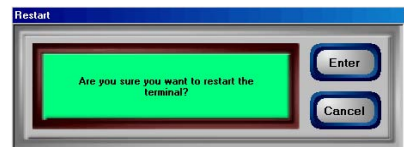

Fig. 7-6. Restart terminal - confirmation dialog.
4. Select the **Restart the Terminal** option by pressing number **(5)** on the alphanumeric keypad. The confirmation dialog appears, as shown in Figure 7-6.